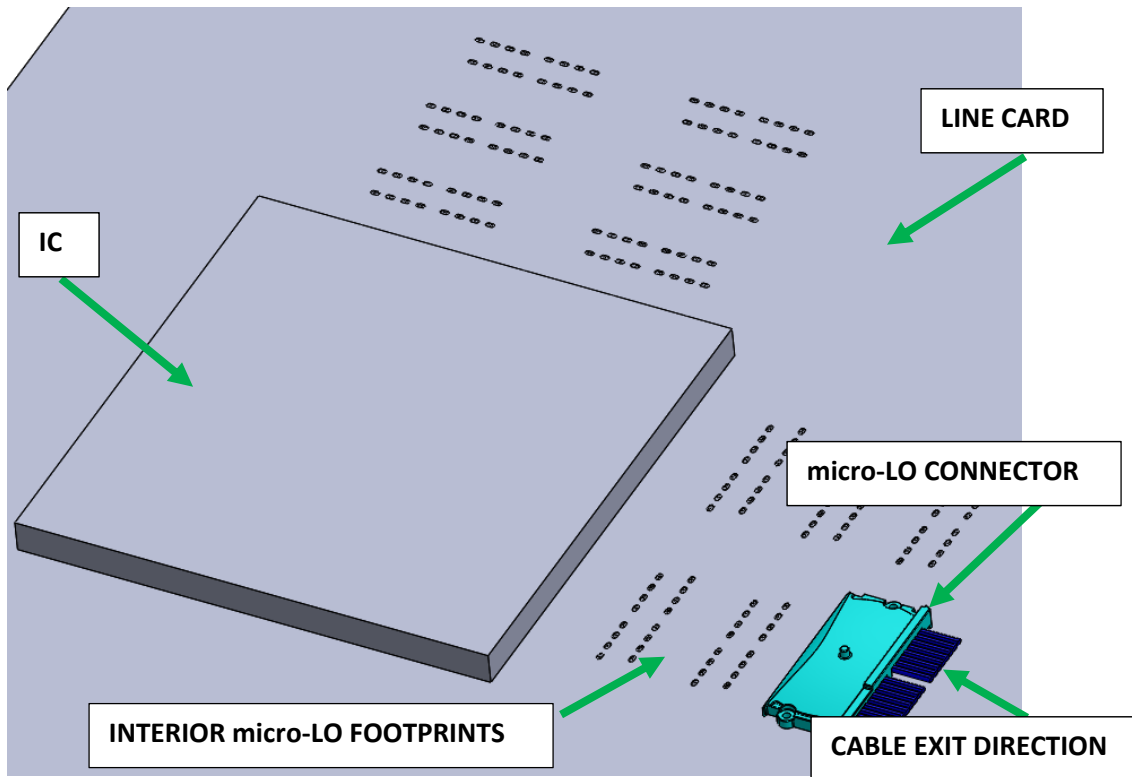

FIGURE 8: ORIENTATION OF INSTALLED CONNECTOR WITH RESPECT TO IC
To install the connector, align it manually with its footprint being sure the cables are exiting in the correct direction, as shown on **Figure 8**. The twinax cables typically exit away from the soldered-down or socketed integrated circuit (IC). If installing multiple connectors in rows, begin with the rows farthest away from the IC.